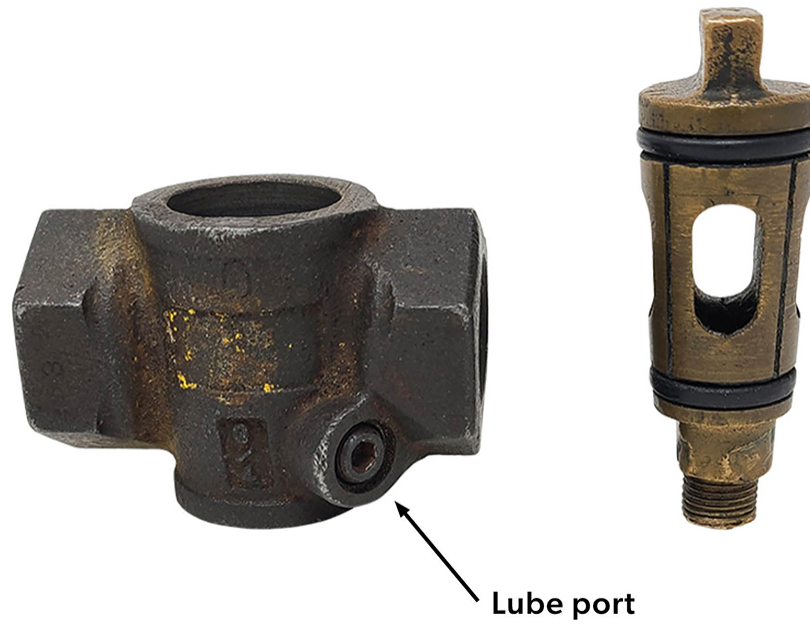
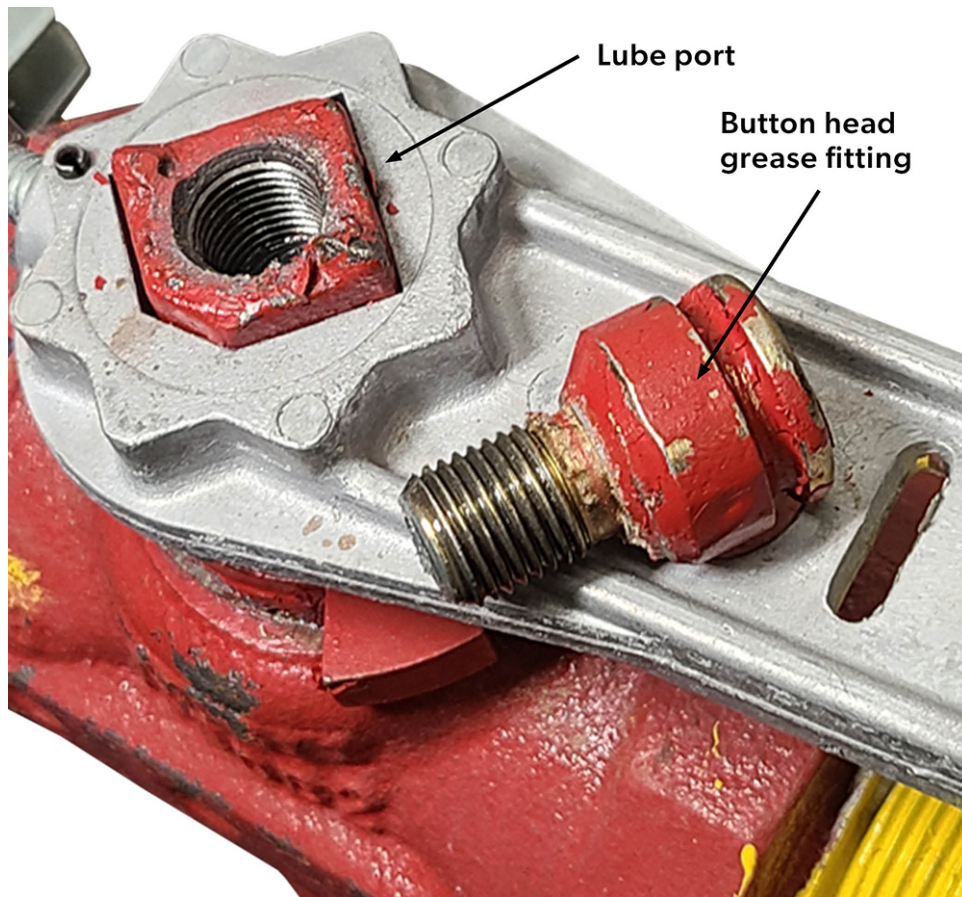

Figure 8. Lubricated plug valve
Figure 9. Stem fitting lube plug valve
The lubricated type of plug valve is approved for indoor or outdoor use and is common on exterior gas meter installations. It is often called a Luboseal™ gas valve after one of the most popular brand names. The tapered plug has O-rings at the top and bottom so that a film of lubricating sealant is maintained between the internal surfaces of the plug and matching body (Figure 8).
The lubrication helps ensure a gas tight seal and provides easier turning of the plug in the body. Machined grooves and passages enable the valve to be relubricated and maintained with the valve in place and with no interruption of service. Lubricant is injected through a port located in the valve body (Figure 8) or top of the plug (Figure 9).
- Figure 8. “Lubricated plug valve” by Rod Lidstone is licensed under a CC BY-NC-SA licence (<https://creativecommons.org/licenses/by-nc-sa/4.0/deed.en>).
- Figure 9. “Stem fitting lube plug valve” by Rod Lidstone is licensed under a CC BY-NC-SA licence (<https://creativecommons.org/licenses/by-nc-sa/4.0/deed.en>).